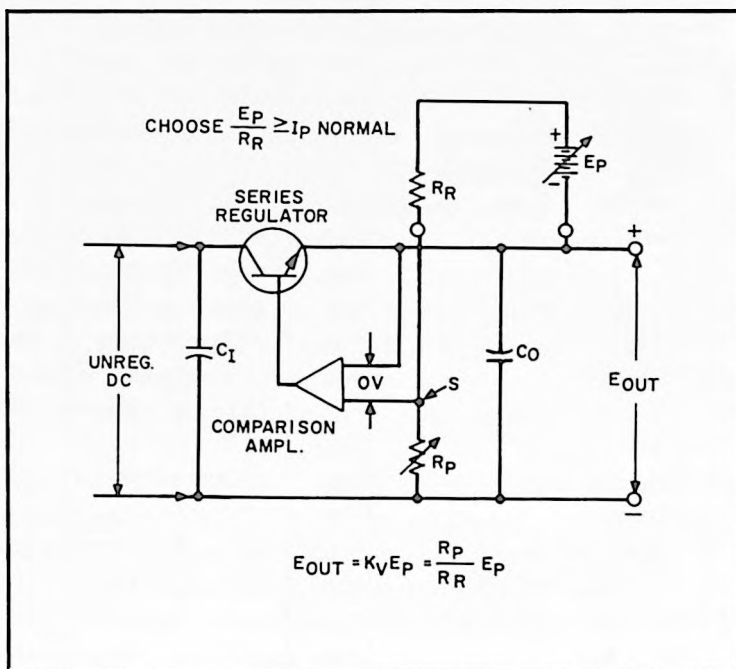

Figure 3-4. Voltage Programming with Variable Voltage Gain
3-39 Figure 3-4 illustrates the method by which a power supply's constant voltage output can be programmed using an external voltage with a voltage gain dependent upon the ratio of R_P to R_R . Note that this method is no different from the circuit normally used for constant voltage control of the output except that an external reference (the programming voltage source) has been substituted for the internal reference. On most supplies, external terminals are available so that the connections shown in Figure 3-4 can be accomplished without any internal wiring changes. In all HP remotely programmable power supplies, the summing point S is made available, and the configuration of Figure 3-4 can always be accomplished using the external programming voltage source E_P and external precision wire-wound resistors R_P and R_R . (R_R should not exceed 10k.) As indicated by the equation in Figure 3-4, R_P can be selected so that the resulting voltage gain is either less or greater than unity. It is possible to use the front panel control on the supply as the voltage gain control R_P .
3-40 **Constant Voltage.** Figure 3-5 illustrates the connections required for the 59501B to program the constant voltage (CV) output of a typical HP power supply. Note the similarities between Figures 3-4 and 3-5. The 59501B includes R_R (R76), R_P (COARSE and FINE POWER SUPPLY FULL SCALE ADJUST), and E_P (59501B output between terminals A1 and A2). The extra resistor (R77) between terminals A5 and A6 is used only when programming power supplies above 300 volts.